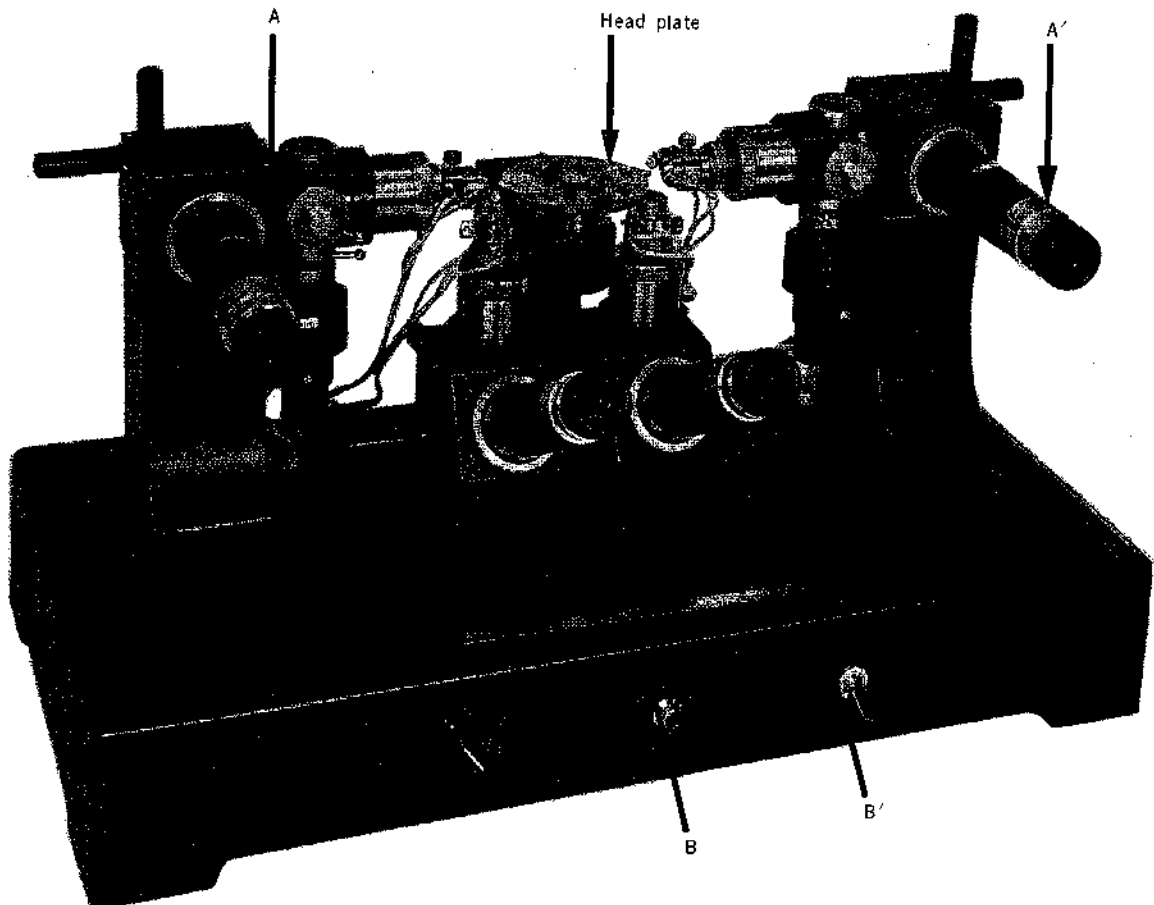

Fig. 3
- (a) Screw down the head plate at the center part of the microscope, positioning the brass plate so that it is located on the forward side of the head plate as shown in Figs. 3, 4, and 5.